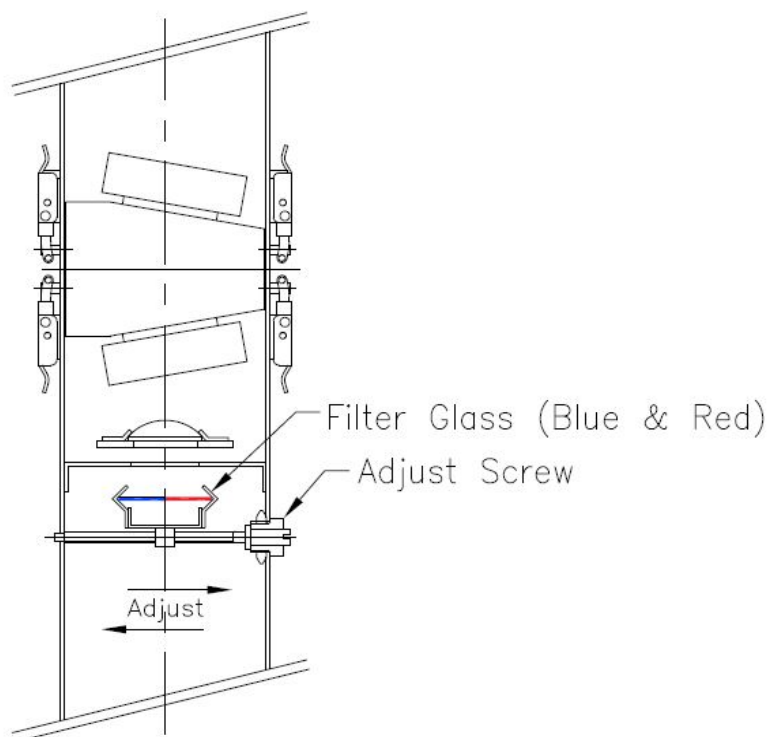

Fig. 4
4.1 Use the Adjust Screw in the ILLUMINATOR Case (Hood) to adjust the filter glass Left and Right to match the color. (See Fig. 4)